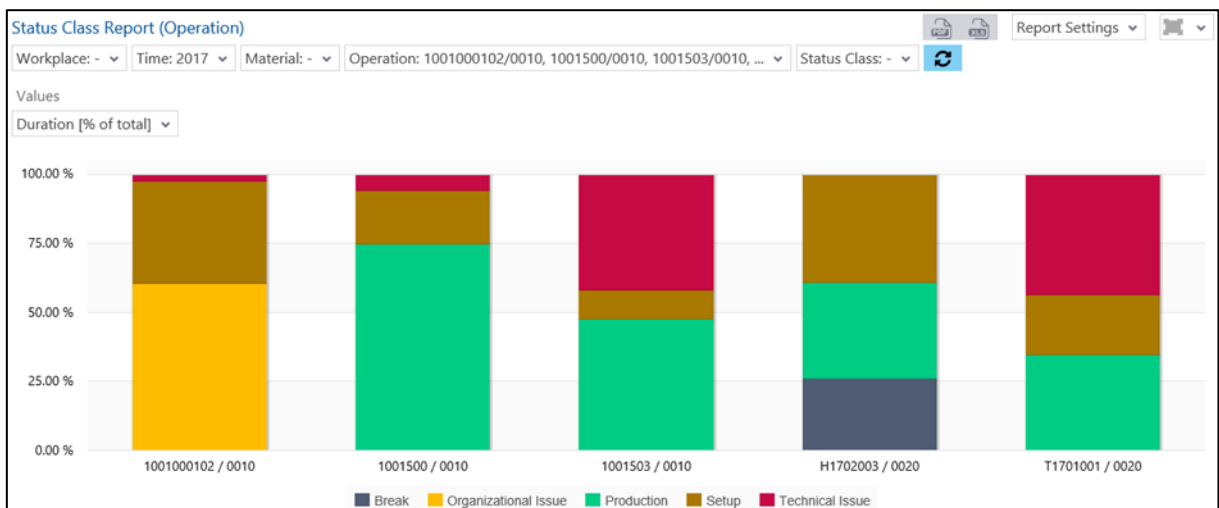

Fig. 85: Operating state class report (operation) as column chart
- Operating state class report (operation) as a column chart (fig. 85):